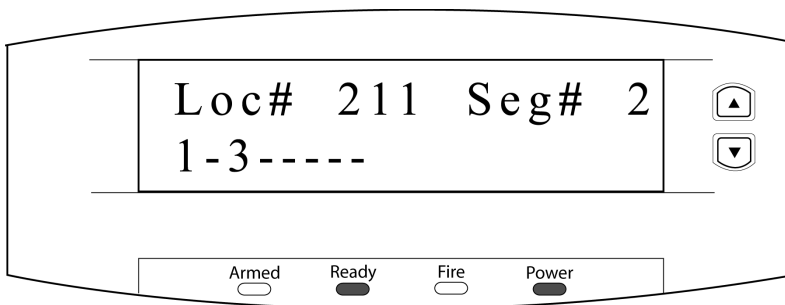

Figure 12: Alarm Panel - Location 211, Segment 2
5. Select the **\*** key to save the selection and move to the next segment. For Location 211, Segment 2, only options numbered 1 and 3 should be on. Once completed, the LCD will look similar to Figure 12.